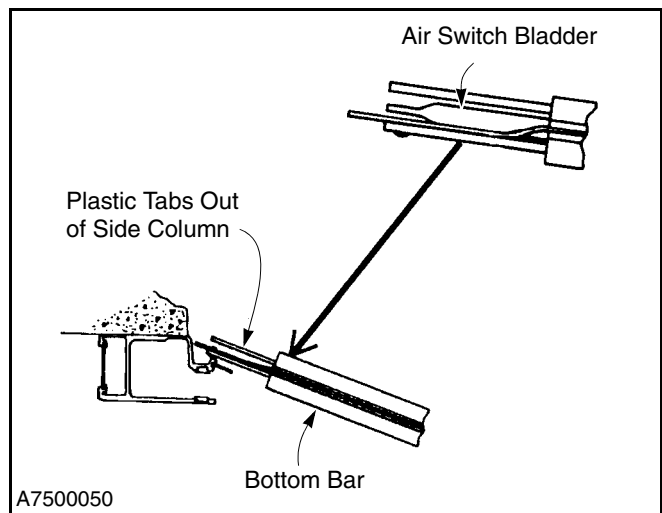

Figure 28
1. With the bottom bar separated from the side columns, locate the kill switch assembly bladder at each end of the bottom bar, then inspect each bladder for damage. Replace if required. (See Figure 28.)